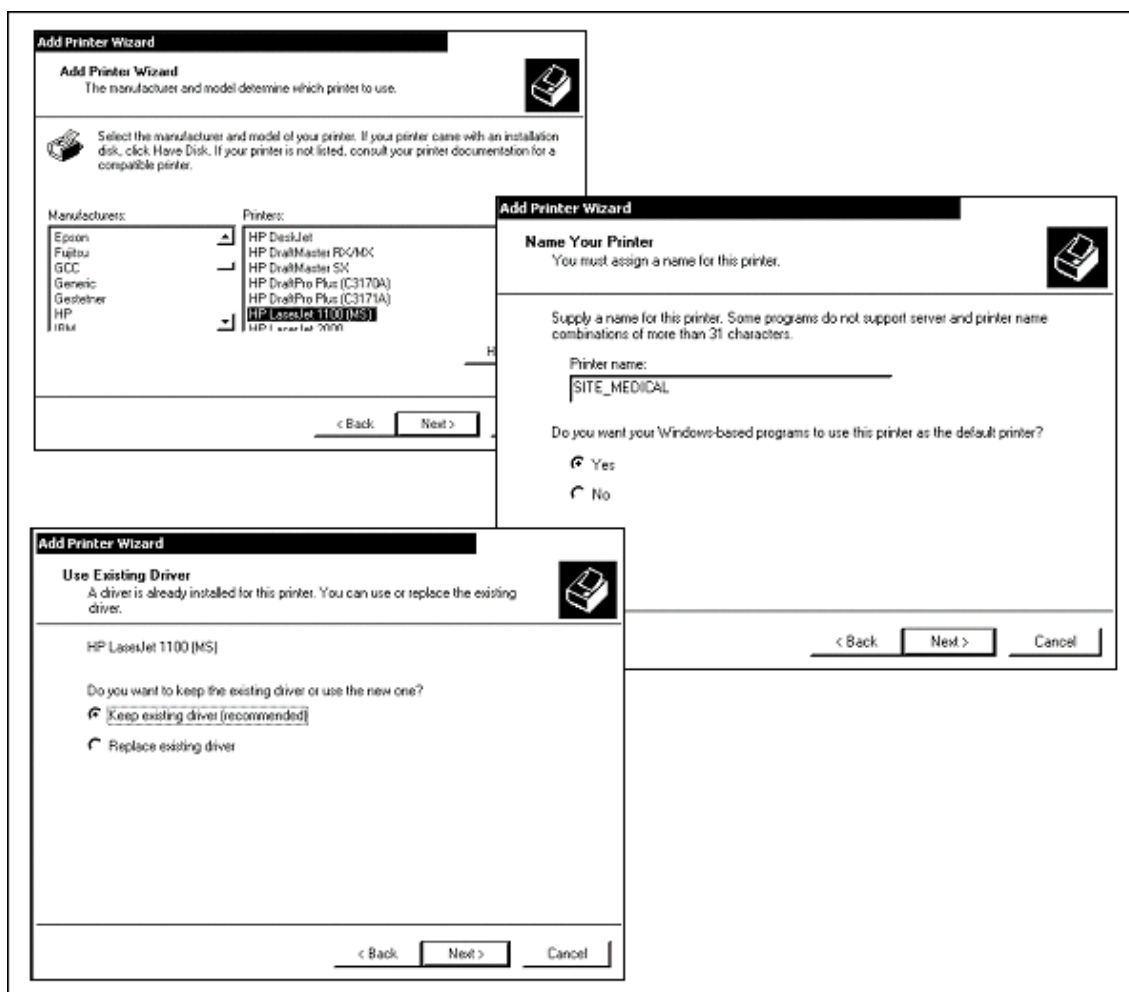

Figure 6-21: Adding an Indirectly Shared Printer, Steps 5-9
5. Select a manufacturer and a model for your printer. Click the Next button (Figure 6-21).